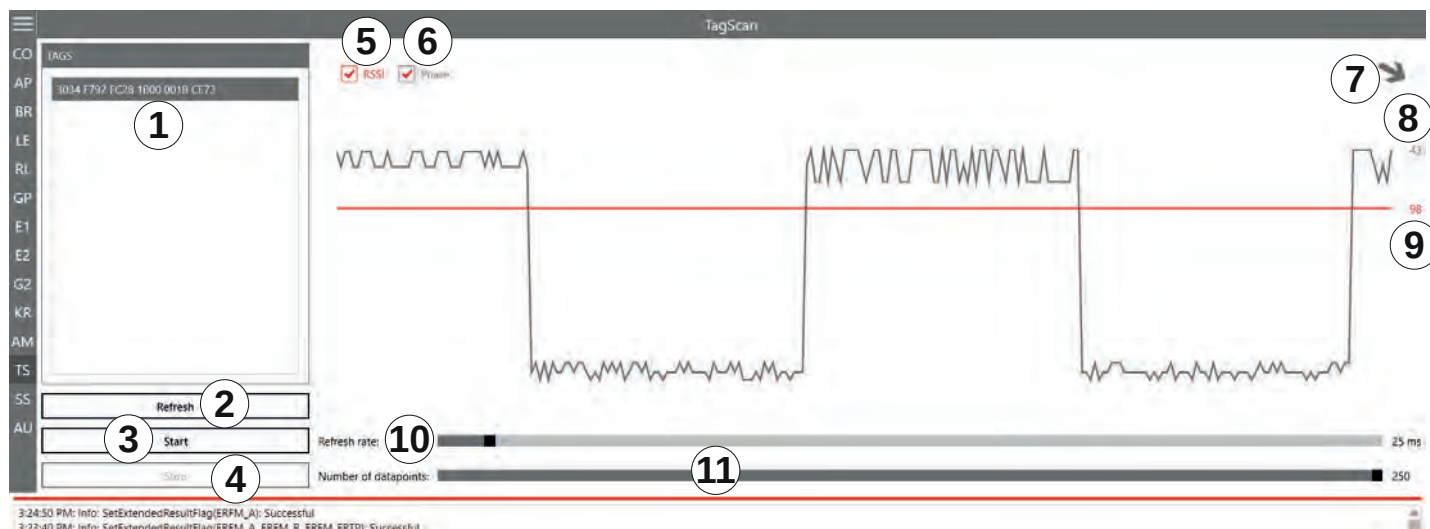

Fig. 87: TagScan: Phase shift (due to the channel change), transponder is not moved
3. Activate the *Demo* box (①).
⇒ The *Product key* field receives the *demo* entry and is deactivated (cf. ② in Fig. 87). The hardware key is shows